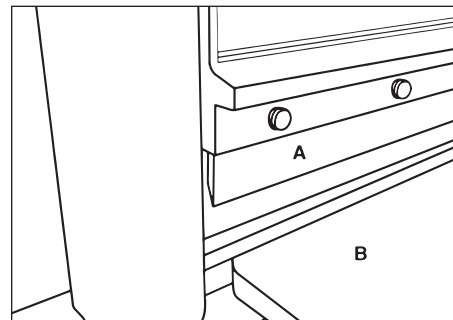

FIGURE 9
- Once blade has been sharpened or replaced, it can be re-installed. Position the blade (Fig. 9-A) with its flat edge facing the table (Fig. 9-B). Make sure the mounting surface and blade are clean, re-install the blade with the seven allen head screws removed earlier using the supplied hex key.